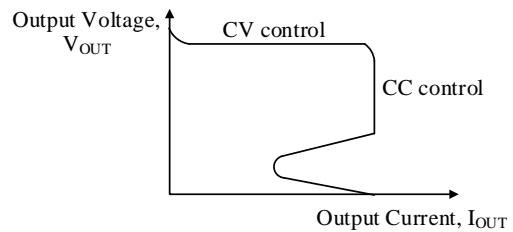

Figure 10-9. CV/CC Characteristic
10.5. Constant Current (CC) Operation
When the output current increases, the drain current of the power MOSFET is limited to the value set by the current detection resistor,  $R_{CS}$ . When the limited state continues for the continues for the OLP Delay Time,  $t_{OLP(ON)} = 93.1 \text{ ms}$ , or more, the IC switches to the constant current (CC) control from the constant voltage (CV) control. Figure 10-9 shows the CV/CC Characteristics.